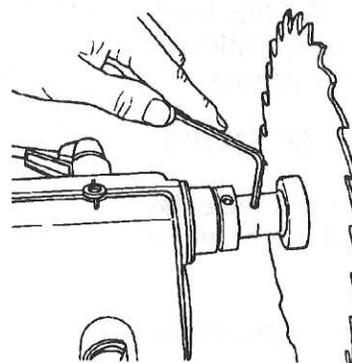

Fig. B-60
20. Mount the saw blade on the spindle and align the arbor setscrew with the spindle knob's setscrew, then use a 5/32" Allen wrench to tighten the arbor setscrew, as seen in Fig. B-60.